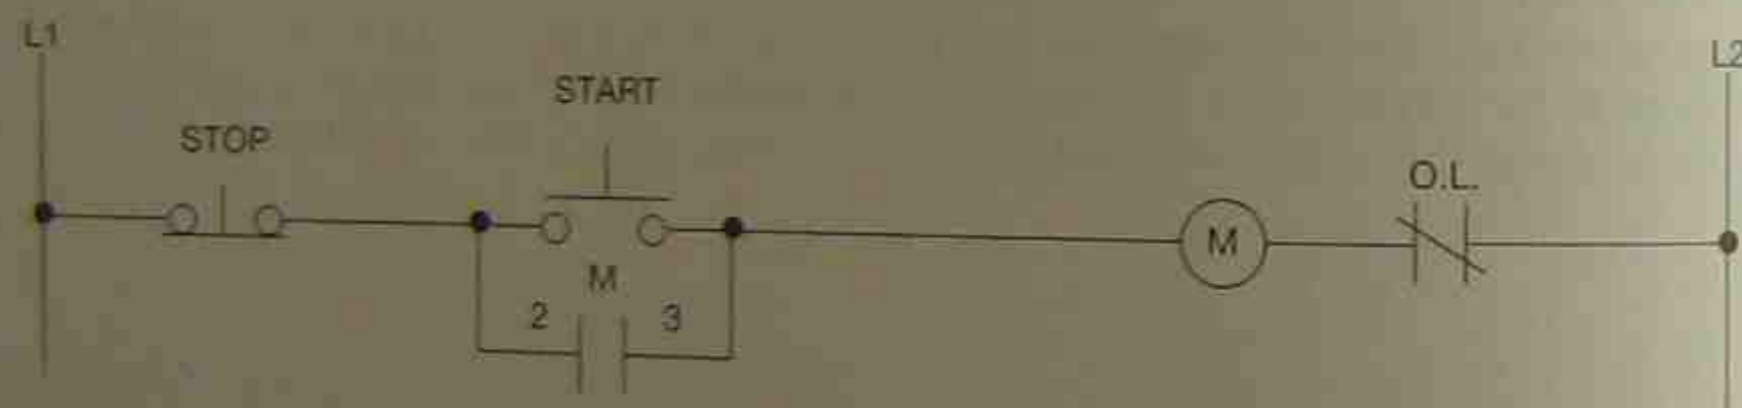

Figure 7-3 Simplified Ladder Diagram
To simplify the circuit and help to understand its configuration, the power portion of the circuit is shown separate from the control portion. No attempt is made to show the actual physical location of the components. Since the motor connections (power portion) are the same for any three-phase motor, it is common practice not to show the motor starter or the motor. By not showing the power portion of the circuit, a ladder diagram is created, showing only the control portion of the diagram (Figure 7-3).
When referring back to Figure 7-1, it is easy to see the physical relationship between the STOP/START station, the motor starter coil (M), the overload contacts (O.L.), and the holding contacts (2 and 3), but it is difficult to determine the electrical relationship. The ladder diagram in Figure 7-3, however, clearly shows the electrical relationship between all of the control circuit components.
3. Devices or components are shown in order of importance whenever possible. In Figure 7-3 the STOP button is shown ahead of the START button. For safety reasons, the STOP button has a higher order of importance than the START button.
5. Contacts associated with relays, timers, motor starters, and the like, always have the same number or letter designation as the device that controls them. This labeling method holds true no matter where the contact(s) appear in the circuit. For example, in Figure 7-3 the N.O. holding contacts 2 and 3 are controlled (activated) by motor starter coil M. Therefore, the contacts are identified with the letter M.